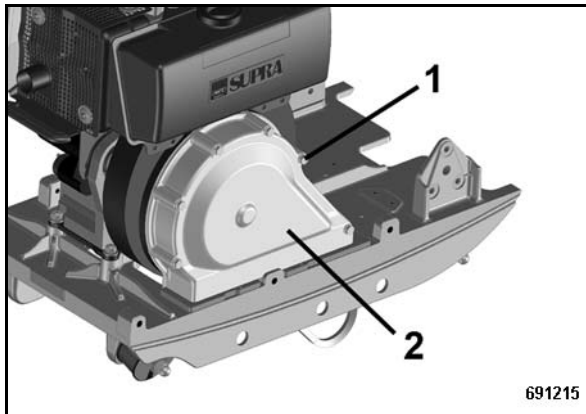
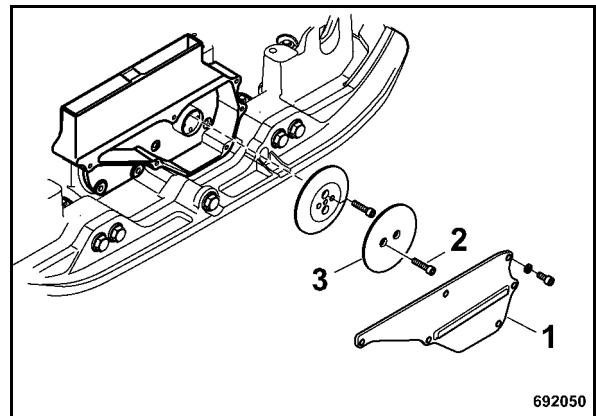

Fig. 69
Fig. 71
- Unscrew fastening screws (1) (Fig. 69) and take off the cover (2).
- Remove the safety cover (1) (Fig. 71).
- Loosen the screws (2) and take off the V-belt pulley (3).
- Assemble the protection cover (1), tighten the screws with 15 Nm (11.1 ft.lbs).
- Install the cover (2) (Fig. 69).